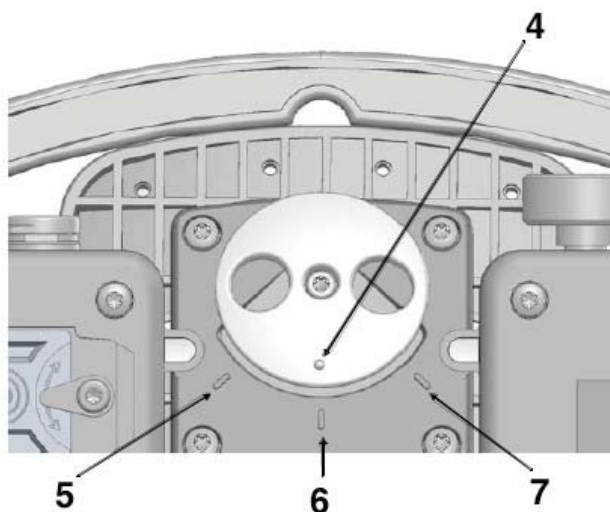

Figure 1.39. Pedal Offset Switch Indicator (4) and Pedal Offset Positions (5, 6, and 7).
For example, if the system is programmed to right foot operation, the indicator (4) can only be set to Center (6) or Right Offset Position (7) only. Refer to Figure 1.39 on page 1-57.